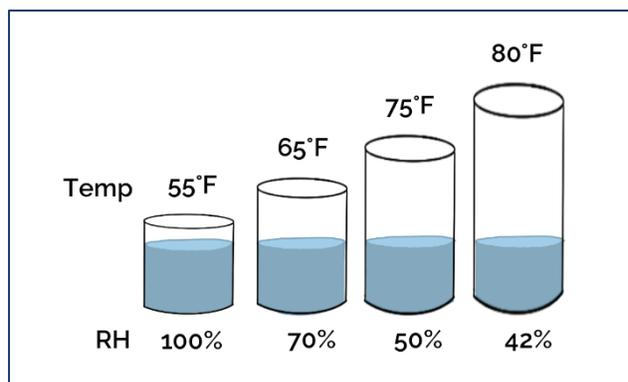

Figure 1: The same amount of moisture results in a higher RH in colder air than in warmer air
Relative humidity (RH) is another way of measuring the moisture content of the air. The difference between dew point and relative humidity is that dew point is absolute and relative humidity is a ratio. This is why RH is expressed as a percentage. RH is **temperature dependent**. This means that RH can change with the moisture content of the air *and* with changes in temperature. Relative humidity is a useful measure of the moisture content of air because the amount of moisture that air has the capacity to hold is dependent on temperature. Colder air can hold less moisture than warmer air, which is represented visually in Figure 1.